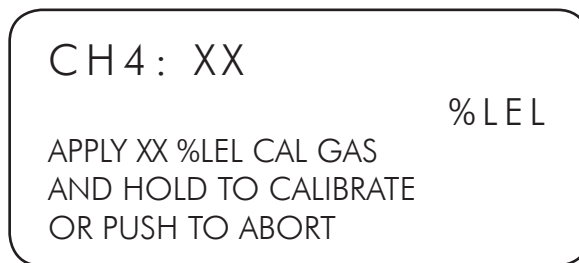

Figure 38
- If either a successful offset calibration was performed or this step was entered with no offset applied, the prompt shown in Figure 38 will be displayed.